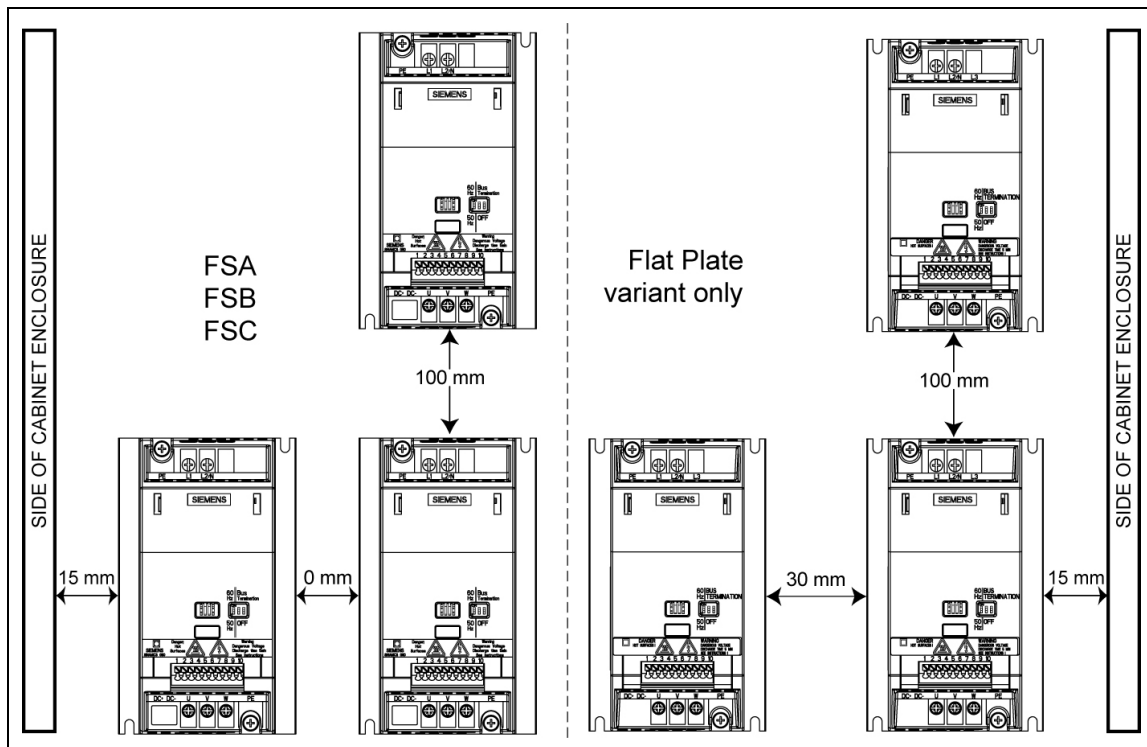

Figure 2-4 Clearance distances for mounting the inverter
Ensure that the inverter's air vents are not obstructed. For the recommended clearance distances see Figure 2-4 on page 22.
- The inverters can be installed in a side-by-side configuration with a minimum distance as shown in Figure 2-4 on page 22.